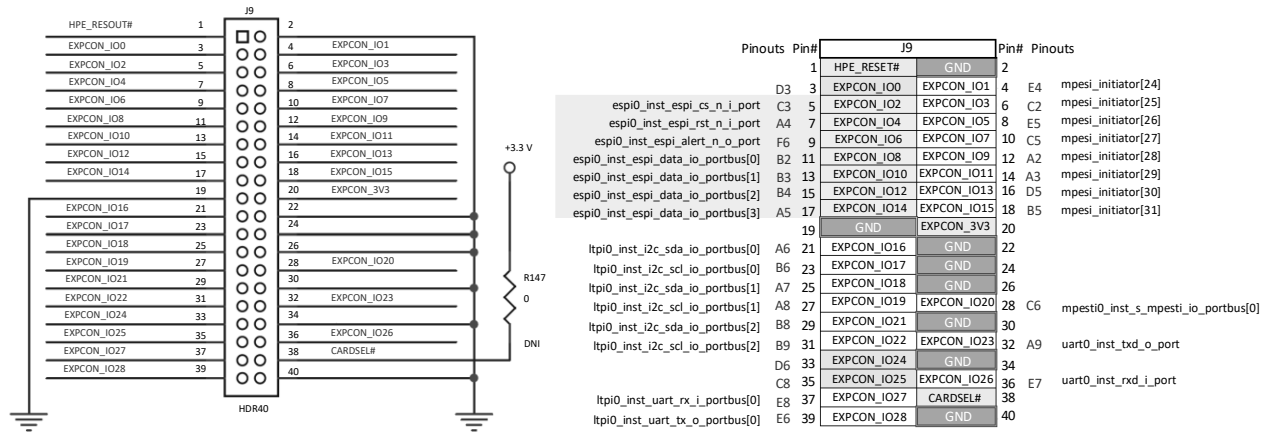

Figure 5.7. eSPI Pin Connection
1. Connect the eSPI Controller to the HPM hardware through the Versa header (J9), as highlighted in Figure 5.7.